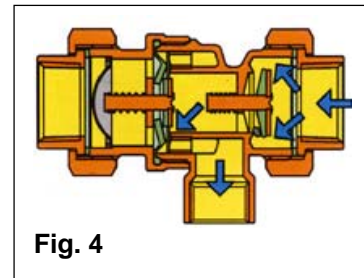

Fig. 4
- When in a condition of back pressure, or when the second check is obstructed for accidental reasons, the vent connected to the drain opens and polluted water is ejected. (Fig. 4)